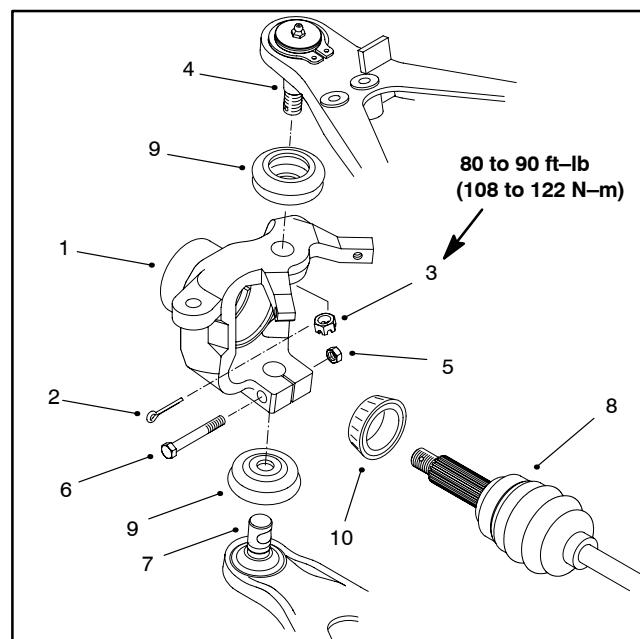
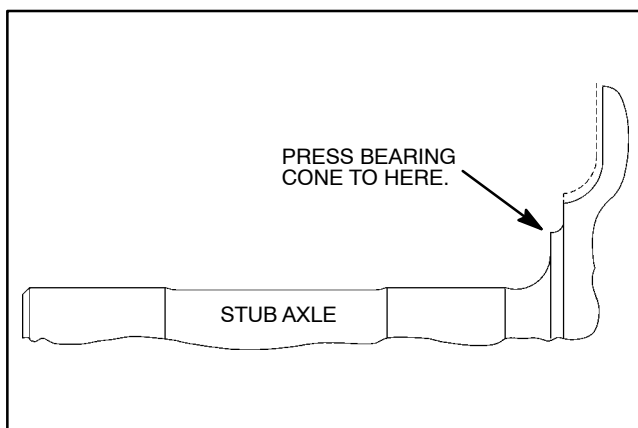

Figure 2
Figure 4
4. Remove hex flange nut (22) and hardened washer (21) from the threaded shaft of the CV joint (14). Discard nut.
5. Pull stub axle (4) and outer bearing cone from the axle housing.
6. Remove cap screw and flat washer securing the brake hose bracket (13) to the axle housing.
7. Remove four cap screws and lock washers securing the brake assembly (19) to the axle housing. Position brake assembly away from the housing.
9. Remove axle housing as follows (Fig. 2):
B. Remove cap screw (6) and lock nut (5) from axle housing.
3. Pack both bearing cones with Mobile high temperature grease or equivalent. If the outer bearing cone was removed from the stub axle, slide wide end of **new** bearing cone onto the shaft of the stub axle and press cone onto the shaft (Fig. 4).
4. Position front brake assembly (19) to the axle housing. Secure brake assembly to the axle housing with four cap screws (8) and lock washers (9).
9. Install axle housing as follows (Fig. 2):